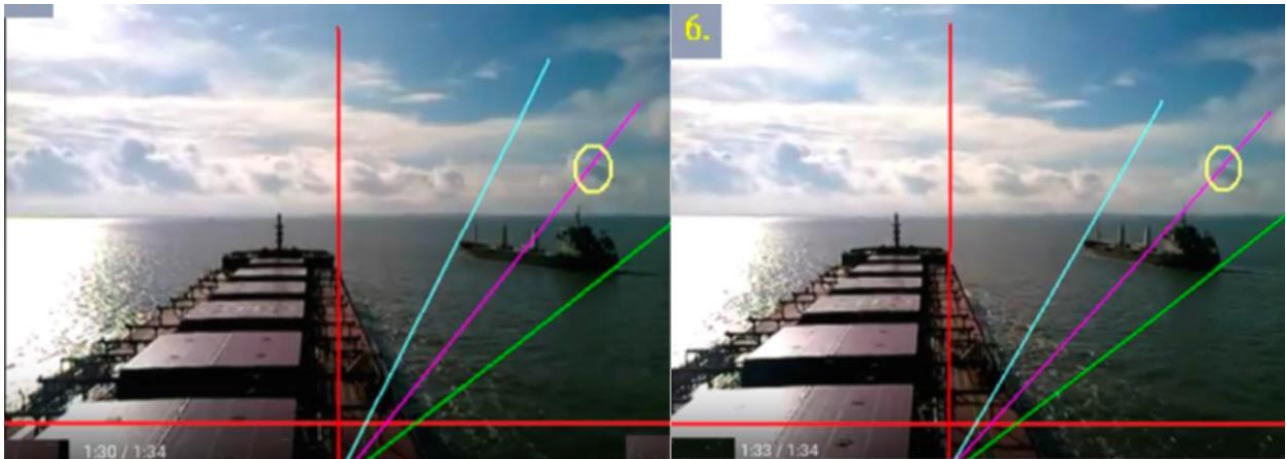

Figure 6-15: Ownship turning port side slowly and target stern approach
Relative bearing of the cloud had changed from 27 degrees in 1:19 times (picture 4) to 41 degrees in 1:30 times (picture 5). Ownship had turned 14 degrees in last 11 seconds. Rate of turn is over 60 degrees per minutes. From figure 6-15 1:30 times to 1:33 times (picture 6), ownship had slow down the turning.
- ⇒ Relative bearing of Target vessel's bow had increased 5 degrees from starboard side 20 degrees to 25 degrees at 1:30 times in figure 6-15 picture No.5.
- ⇒ Relative bearing of Target vessel's bow had increased 5 degrees from starboard side 25 degrees to starboard side 30 degrees at 1:33 times in figure 6-15 picture No.6.
- ⇒ Relative bearing of Target vessel's stern had increased 02 degrees from starboard side 55 degrees decreased to starboard side 57 degrees at 1:30 times in figure 6-15 picture No.5.
- ⇒ Relative bearing of Target vessel's stern had not changed from 57 degrees at 1:33 times in figure 6-15 picture No.6.